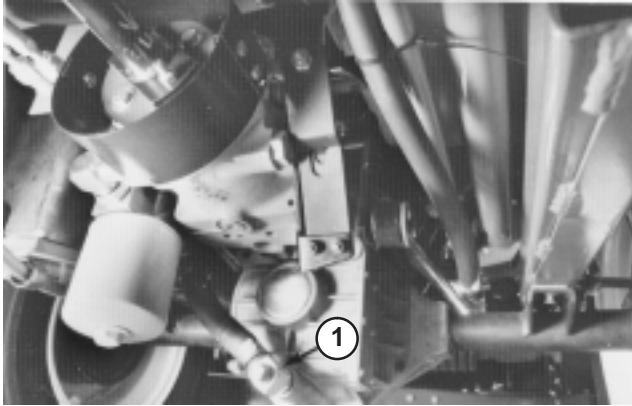

Figure 50
4. Remove drain plug from fitting between axle housing and oil filter and allow oil to flow into drain pan (Fig. 50).
6. Install drain plug in fitting between axle housing and oil filter (Fig. 50).
9. Leave machine set for two additional minutes, then remove dipstick and check oil level in axle (Fig. 51). If level is low, add oil until level matches groove in dipstick (Fig. 51). If level is too high, remove drain plug (Fig. 50) and drain oil until oil level matches groove in dipstick.